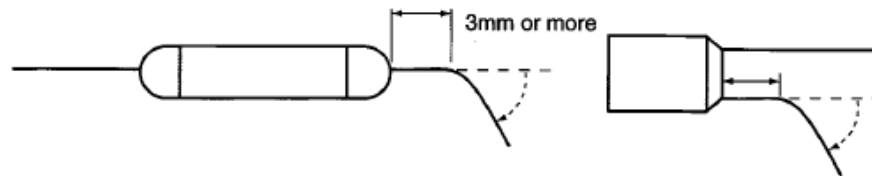

Fig.2
4. When bending a lead wire for installation, fix the part of the lead between the body and the lead section to be bent using a tool, and gently bend the lead section that is at least 3 mm from the body. Never hold the body with a tool (see Fig.2).